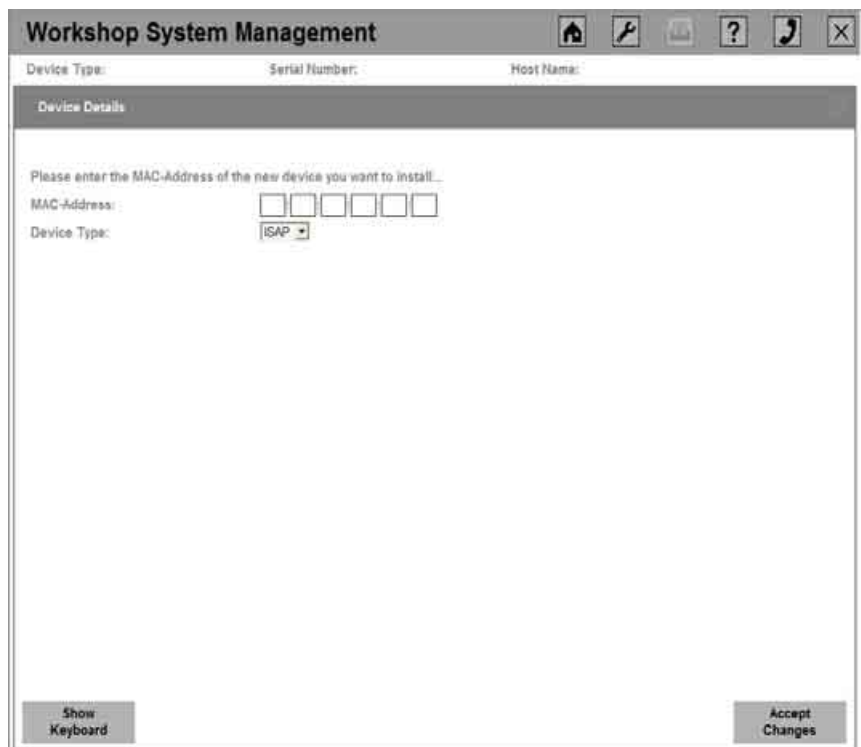

Fig. 74: Selection of ISAP device type and input of the ISAP MAC address
- Select "ISAP" as device type, enter the MAC address, and click the "Apply" button (see Fig. 74). This meets the requirements for the ISAP to be recognized as a new device when it is connected to the workshop LAN.